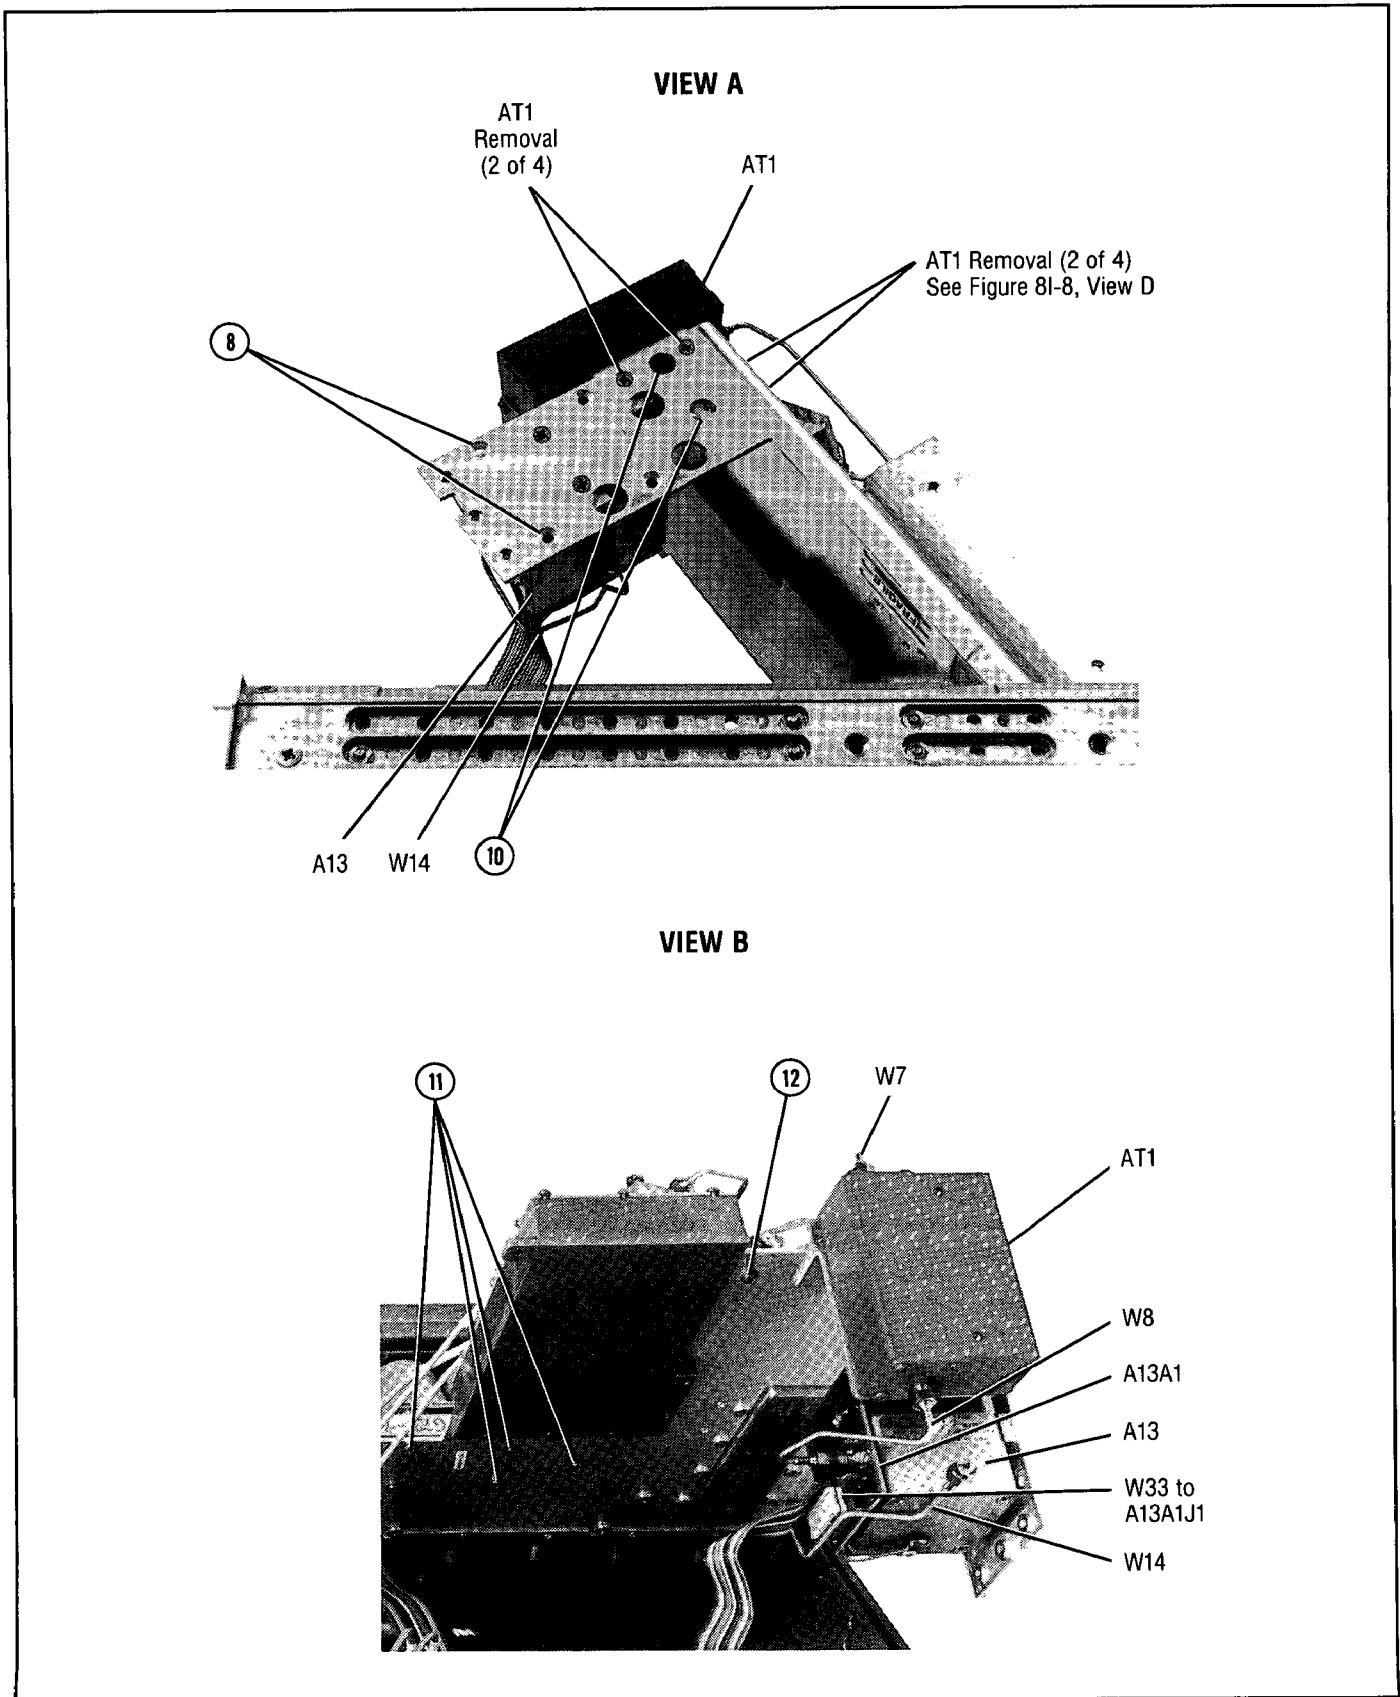

Figure 8I-9. A13, A13A1, A16, A18, and AT1, Assemblies, Cables, and Mounting Hardware Location
While holding the A13 assembly, remove the two screws (item 8) shown in Figure 8I-9.
Refer to Figure 8I-8, "RF Assemblies, Cables, Mounting Hardware Location", View D, for related assemblies, cables, and mounting hardware location. Refer to the "HINGED RF DECK ACCESS PROCEDURE".
Remove the four screws shown in Figure 8I-8, View D. When removing the last screw, hold the AT1 assembly. Make sure W7 and W8 are clear of AT1J1 and AT1J2 when removing the AT1 assembly.
Refer to Figure 8I-8, "RF Assemblies, Cables, Mounting Hardware Location".
Refer to Figure 8I-8, "RF Assemblies, Cables, Mounting Hardware Location", and Figure 8I-9, "A13, A16, A18, A18A2, and AT1 Assembly, Cable, Mounting Hardware Location".
Using an offset posidrive, remove the five A16 mounting screws on the back of the RF Deck. Refer to item 11, Figure 8I-9, View B.